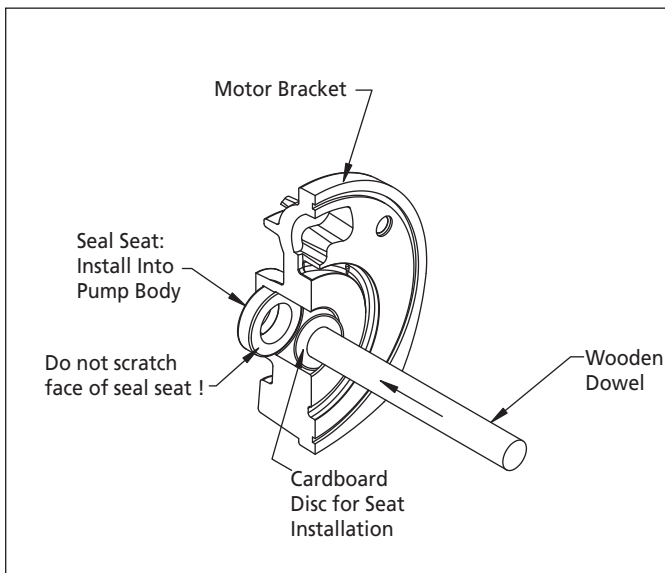

Figure 7 - Seal Seat Installation
3. Wet the rubber portion of the new seal seat with a light coating of soapy water. While wearing clean gloves or using a clean light rag, press seal seat squarely into adapter recess. Use the cardboard washer (usually supplied with new seal) to place over the polished ceramic surface and use a piece of pipe or dowel rod to press in firmly but gently (See Figure 7). Avoid scratching the ceramic face, usually white.